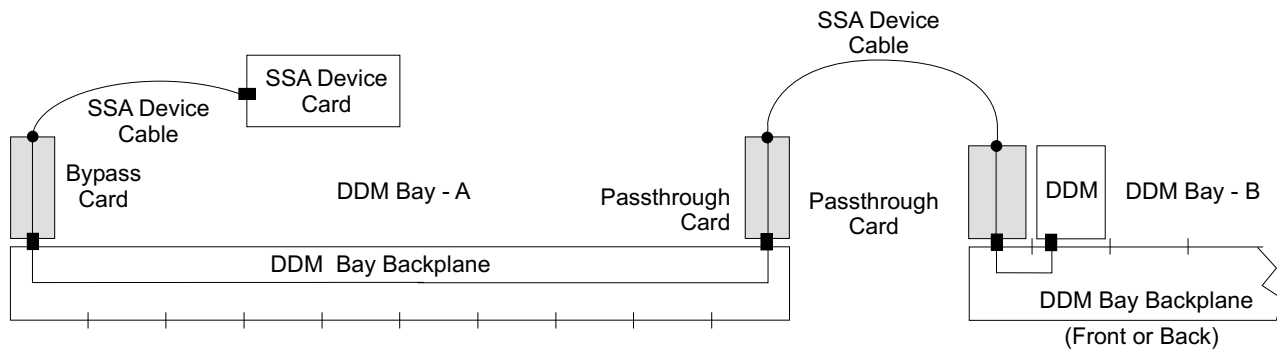

Figure 44. SSA Link Failure, Signal or Bypass Card Link Between a DDM and SSA Device Card (S0080411)
- a. Disconnect one of the two SSA device cables shown in Figure 44 on page 118, and listed in the Problem FRU list.
- If all of the cards shown in Figure 44 on page 118, have been replaced, go to step 3.
- If all of the cards shown in Figure 44 on page 118, have NOT been replaced, repeat this step until all of the cards have been replaced.
- If both of the SSA device cables shown in Figure 44 on page 118, have been replaced, go to step 4.
- If both of the SSA device cables shown in Figure 44 on page 118, have NOT been replaced, repeat this step until all of the cables have been replaced.
- If all of the backplanes shown in Figure 44 on page 118, have been replaced, the SSA link is still degraded, call the next level of support.
- If all of the backplanes shown in Figure 44 on page 118, have NOT been replaced, repeat this step until all of the backplanes have been replaced.